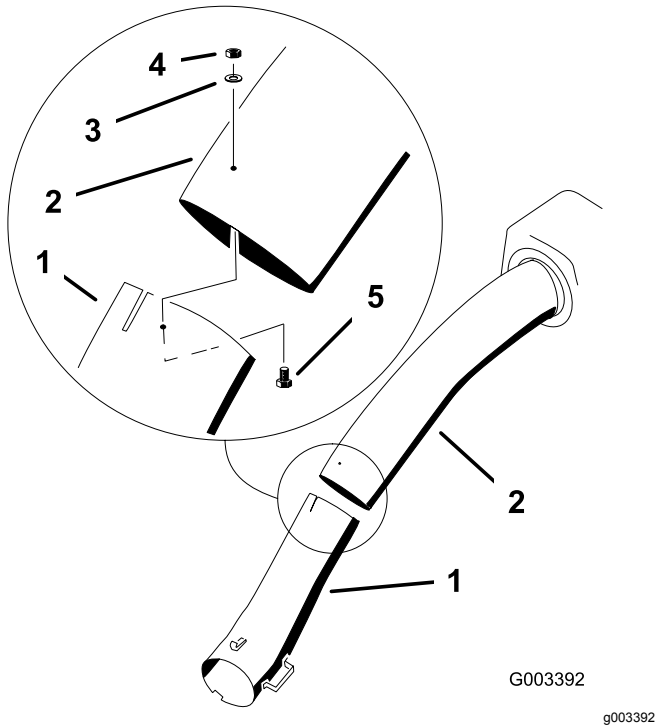

Figure 53
13. Join the upper and lower tubes with 3 bolts (#10 x 3/4 inch), flat washers, and locknuts as shown in Figure 53.